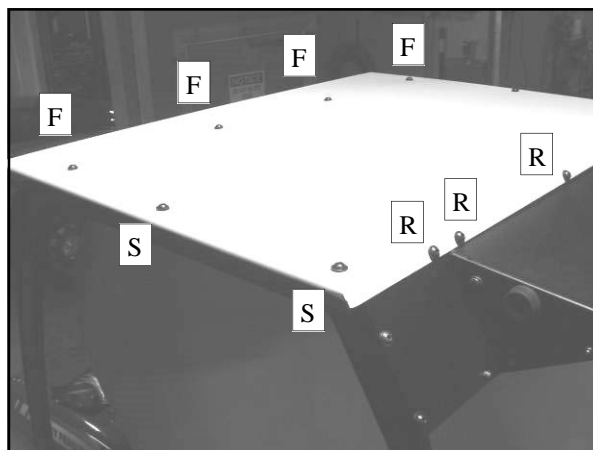

Fig. 10.2 (view from above left rear side of tractor)
10.2 Per fig. 10.2 use the following hardware in the four front holes marked "F" (for front): four 5/16 x 1" long button head bolts, eight steel washers, four plastic washers, and four locknuts. All locknuts to be on the inside of the cab. Use the following hardware in the two side holes marked "S" (for side): two 5/16 x 1" long button head bolts, two steel washers, and two plastic washers. These thread into factory installed threaded inserts in the side frame tubing. Repeat for opposite side of tractor. Use the following hardware in the five rear holes marked "R" (for rear): five 5/16 x 1" long button head bolts, ten steel washers, five plastic washers, and five locknuts. All locknuts to be on the inside of the cab. Tighten all 13 roof bolts.